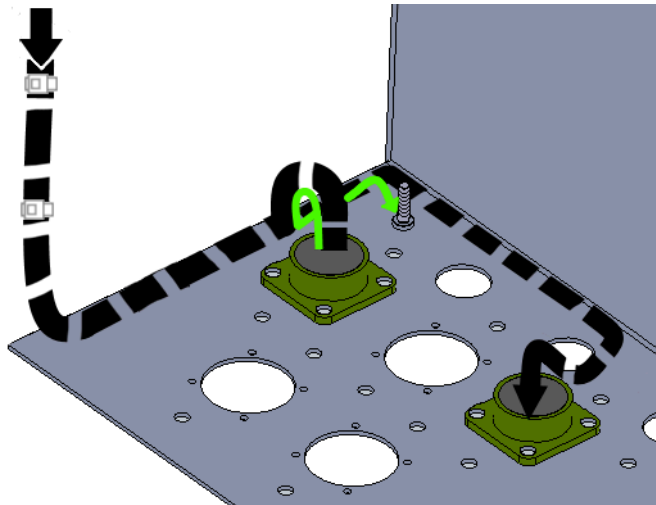

Figure 2 Form Drip Loop and Route Harness Wires
- Step 4. Form a drip loop and route the harness wires to the back of the cabinet and to the left toward the 14-pin connector. See *Figure 2*.